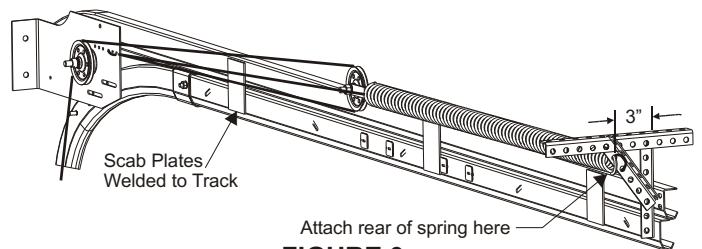

FIGURE 9
1. Follow the Extension Spring installation instructions for standard track on page 14. However, in Step 4A hook one end of each extension spring into each sway brace or ceiling angle. Space the spring approximately 3 inches from the hanging angle in order to clear the track bolts on the horizontal tracks. (See Figure 9)